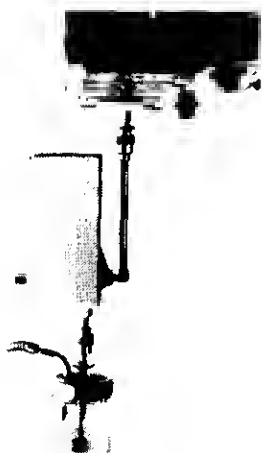

FIGURE 10
8.1.1 Remove the Surgical Vacutron from its shipping container. Attach a suction collection bottle with female swivel nut fitting on the cap, to the bottom of the unit (see Fig. 10). It is recommended that a 1-2 gallon or smaller bottle be used when mounting on walls or columns. Insert Chemetron quick connect adapter into Chemetron outlet station on the ceiling column until latching occurs.